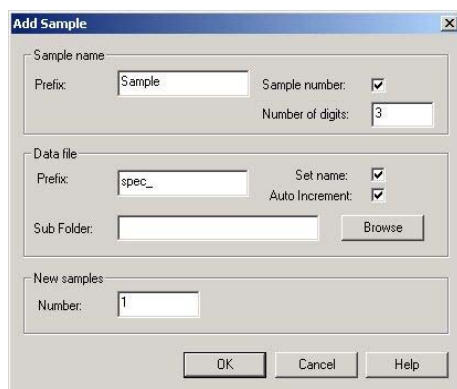

Fig. 7-32. Add Sample dialog box.
- Click the “Add Sample” button to insert the first sample to run. Enter sample name prefix and data file prefix and other fields in the Add Sample dialog box. The example is shown in Fig. 7-32. OK to add the sample.